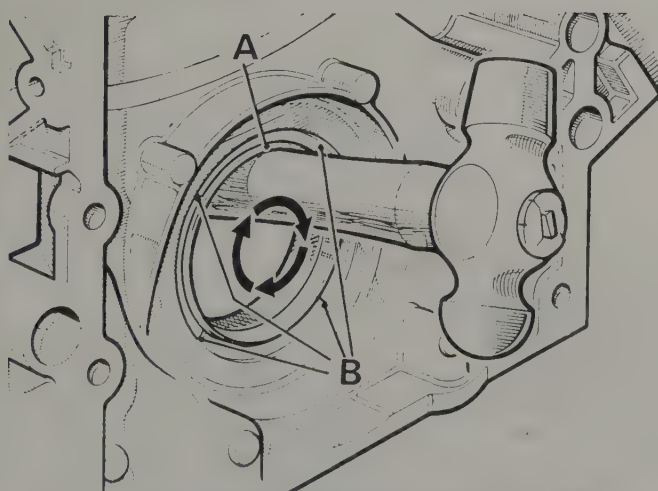

Fig. 1.31. Method of locating timing cover oil seal (A) equidistant staking points (B)
- 1 Renew **both** the oil seal and the oil thrower. (Fig. 1.31).
- 2 Fit the new oil seal into the new thrower. (Fig. 1.31).